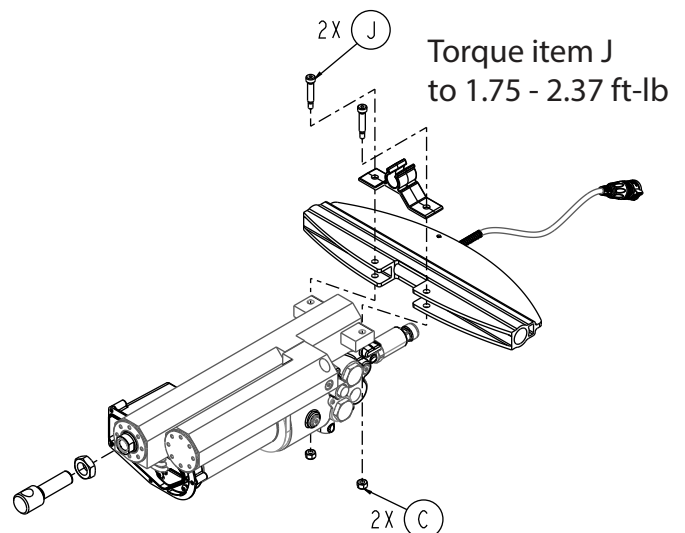

Figure 44 – Remove the actuator assembly bolts and nuts
14. Using a 1/8" hex wrench and 3/8" combination wrench, remove the two socket head shoulder bolts (J) and Fiberlock nuts (C) that secure the actuator assembly to the X-frame cross brace (Figure 44). Save the bolts and nuts.